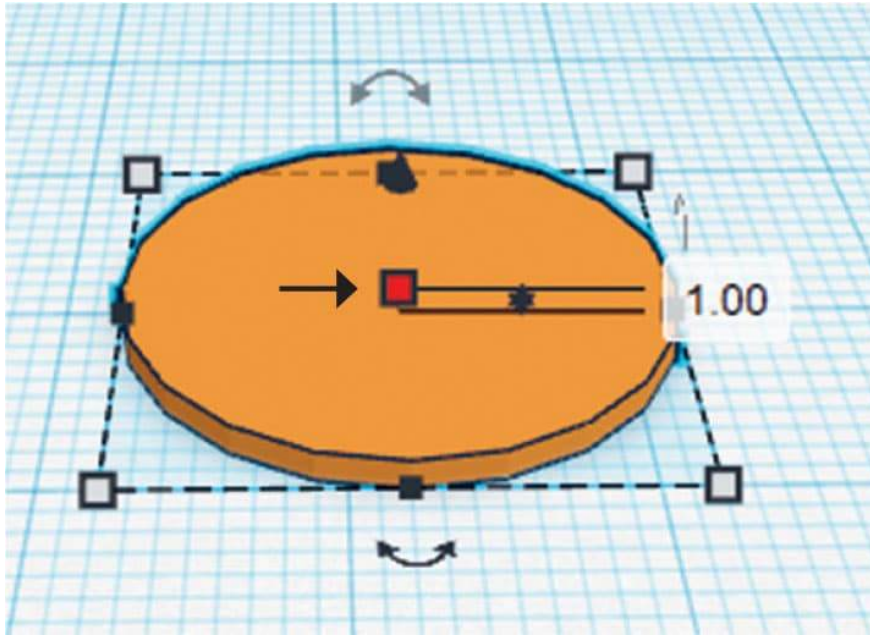

FIG. 5: Use the height adjustment button to flatten the cylinder.
6. Modify the size of the cylinder to make it 1 mm tall/thick (a flattened cylinder). Click and drag up the white square to adjust height (fig. 5).